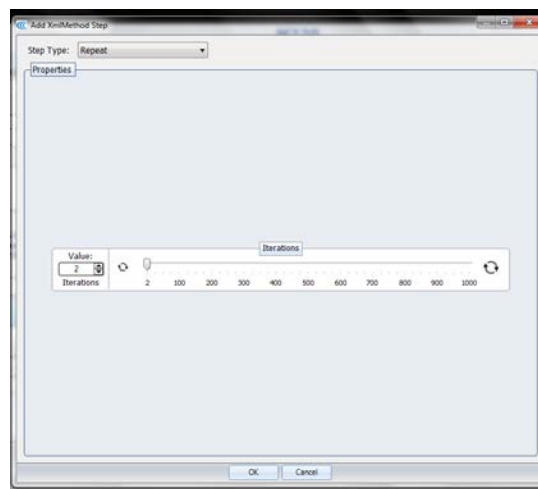

Figure 4.6 Add a Repeat Step
- 5.1.4** By choosing a *Repeat* step, the user can choose how many iterations they would like to apply to a method. See Figure 4.6.